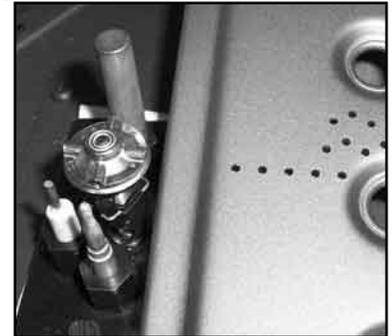

Figure 9. Ignitor assembly beside the burner.
- Step 9.** Reinstall the burner tray, log set, embers, and glass. When re-installing the burner, ensure that the burner to pilot hood relationship is as shown on Figure 9.